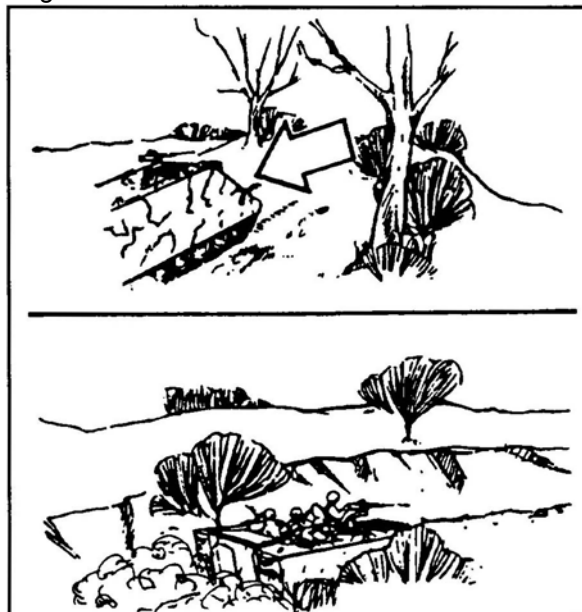

Figure 2. Move from defilade or hull-down firing position.
- a. Never skyline or move directly forward from a defilade or hull-down firing position (Figure 2).